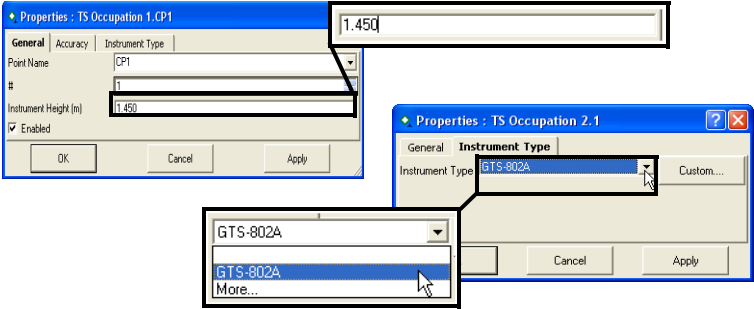

Figure 5-87. Enter New Parameters for TS Occupation
- On the *General* tab, edit the height of the instrument as needed (Figure 5-87).
4. On the *Instrument Type* tab, edit the type of instrument used as needed (Figure 5-87).